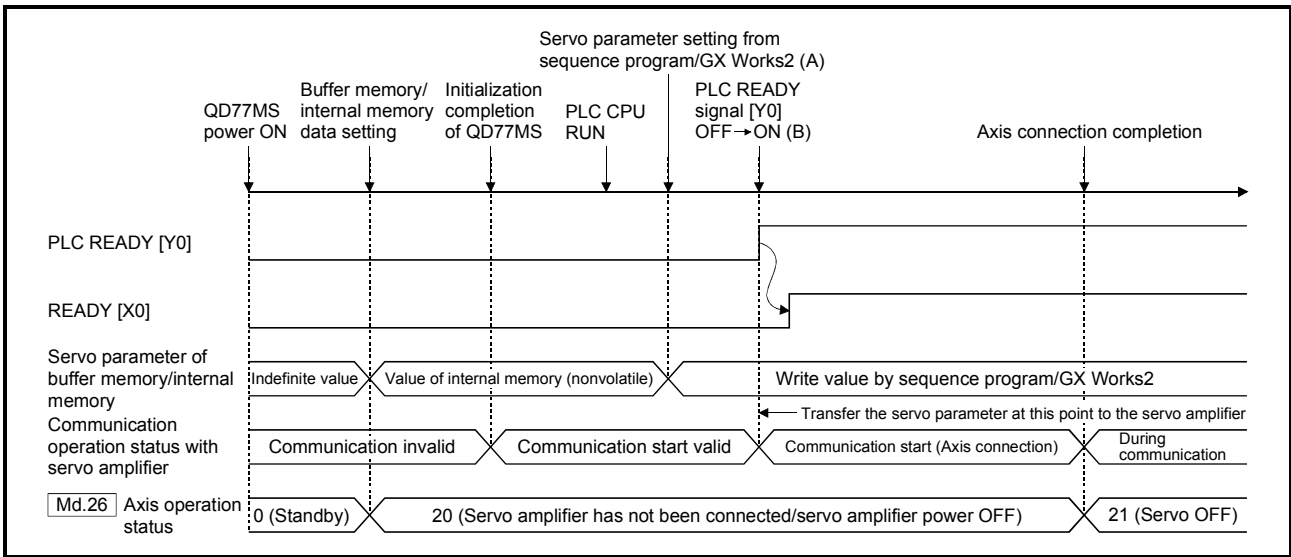

Fig. 7.2 When the servo amplifier had started before the system's power supply ON
Communication start timing to the servo amplifier: The data written from sequence program before the PLC READY signal [Y0] ON (Fig. 7.2 (B)).
Transfer the servo parameter : The data written from sequence program/ GX Works2 before the PLC READY signal [Y0] ON (Fig. 7.2 (A)).